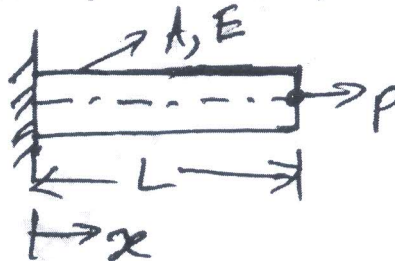

Fig Q3(b)
- Use Galerkin method, for find the displacement of the system shown in Fig Q3(b)